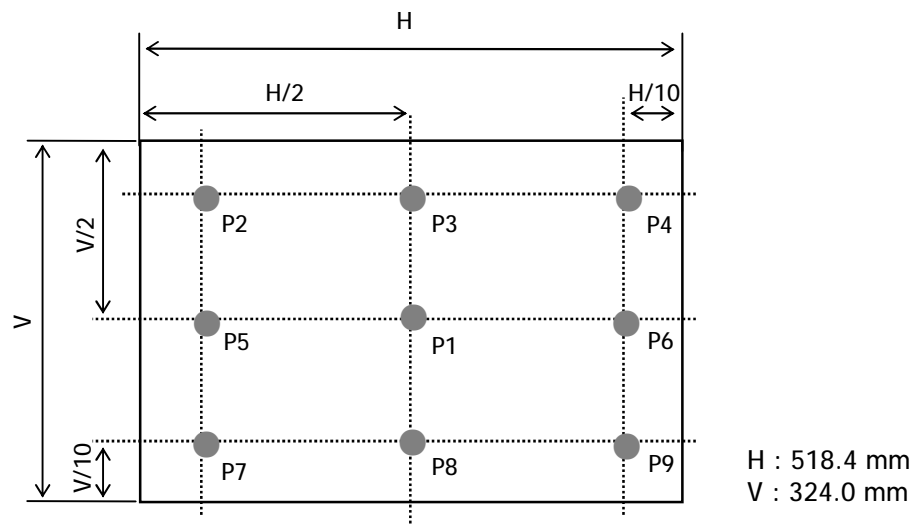

FIG. 2 Measure Point for Luminance
[Figure 2] Power dip condition
2. Surface luminance(L_{WH}) is luminance value at 5 points average across the LCD surface 50cm from the surface with all pixels displaying white. For more information see FIG 2. (By PR880)
For more information see FIG 2.